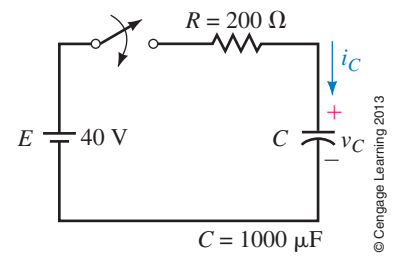

FIGURE 11–16
1. If the capacitor of Figure 11–16 is uncharged, what is the current immediately after closing the switch?
4. For Figure 11–16, determine expressions for v_C and i_C . Compute capacitor voltage and current at $t = 0.6$ s. Verify answers using the universal time constant curves.
5. Refer to Figure 11–10:
6. For the circuit of Figure 11–11, the current just after the switch is closed is 2 mA. The transient lasts 40 ms and the capacitor charges to 80 V. Determine E , R , and C .
Suppose a previously charged capacitor has not been discharged and thus still has voltage on it. Let this voltage be denoted as V_0 . (V_0 is referred to as an **initial condition**.) If the capacitor is now placed in a circuit like that in Figure 11–16, the voltage and current during charging will be affected by the initial voltage. In this case, Equations 11–7 and 11–8 become
A few comments are in order about these equations. Consider Equation 11–10. When you set $t = 0$, you get $v_C = E + (V_0 - E) = V_0$. This agrees with our assertion that the capacitor was initially charged to V_0 . If you now set $t = \infty$, you get $v_C = E$, which confirms that the capacitor charges to E volts as expected. Consider Equation 11–11. When you set $t = 0$, you get $i_C = (E - V_0)/R$. Recalling that an initially charged capacitor looks like a voltage source [see Figure 11–5(c)], you can see that if you replace C in Figure 11–16 with a source V_0 , the current at $t = 0$ will be $(E - V_0)/R$ as noted. Note also that these revert to Equation 11–7 and Equation 11–8 when you set $V_0 = 0$ V.